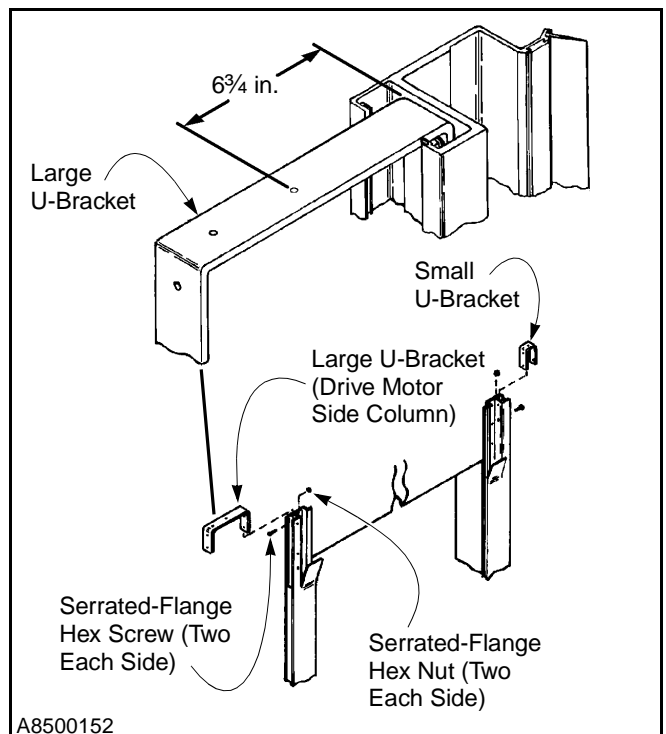

Figure 19
2. Attach a spreader assembly U-bracket on the outside face of each side column using two $\frac{3}{8}$ -16 x $1\frac{1}{4}$ -in. serrated-flange hex screws and nuts for each bracket. The U-brackets and mounting hardware were shipped in the small parts carton. (See Figure 19.)
IMPORTANT: Attach the large U-bracket to the drive motor side column with the screw hole located $6\frac{3}{4}$ -in. from the end of the bracket, nearest to the outside face of the side column. (See Figure 19.)